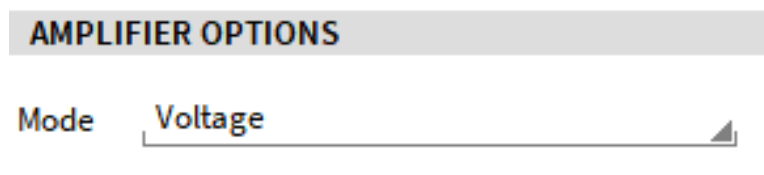

Fig. 7.49: Voltage measurement mode
- Set the Amplifier Mode to Voltage (see Fig. 7.49):